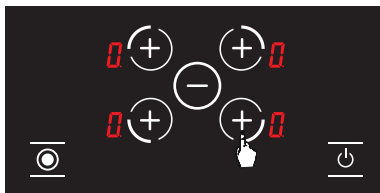

Figure 10
3. Then press the corresponding hotplate selection button **+** again. The label corresponding to the hotplate **0** will be displayed. (See Fig. 10.) This will activate the keep warm function.